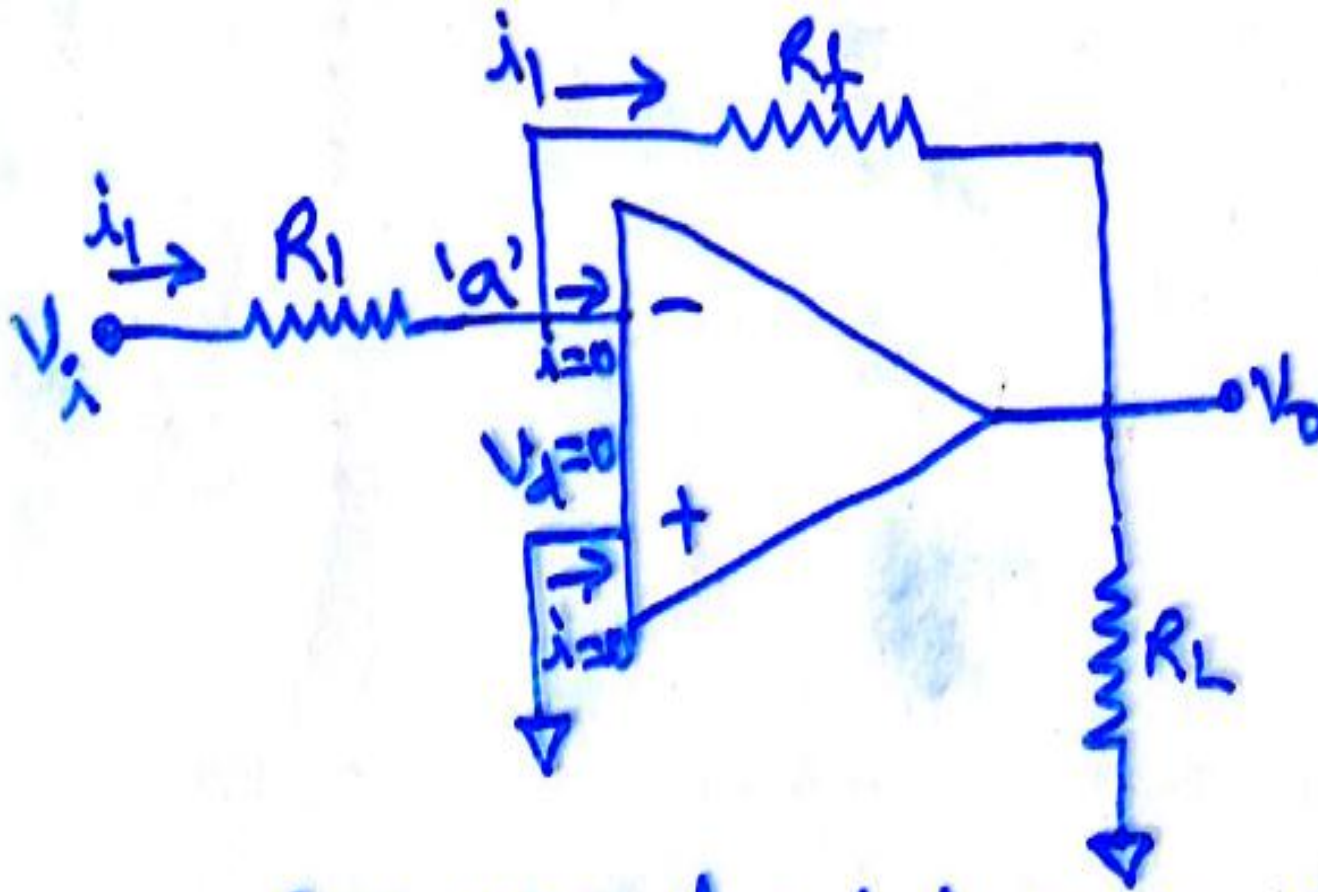

Fig 2(a) closed loop inverting amplifier.
- The circuit is shown in the figure 2(a)